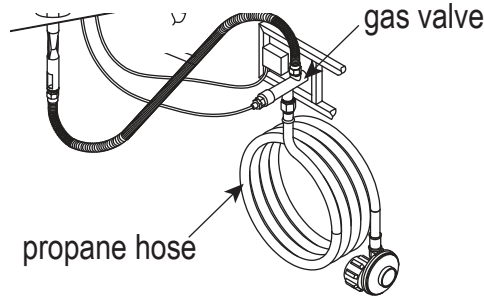

Figure 8
1. Disconnect the propane hose from the gas valve (See Figure 8).